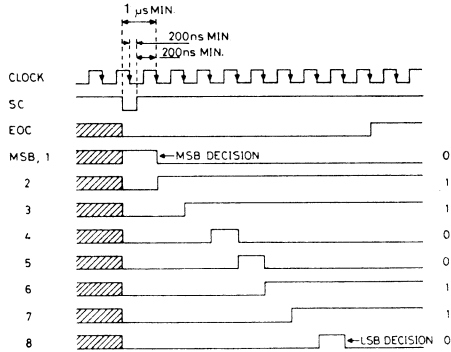

Fig. 3 Timing Diagram
Operation of the ZN427 is best described with reference to the timing diagram—Fig. 3. Conversion is initiated by a START CONVERT (SC) pulse which can be applied asynchronously with respect to the ZN427 clock providing the following criteria are met.